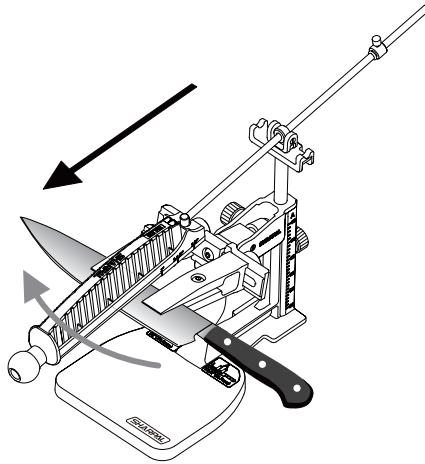

Fig. 17
**Note:** When stropping the knife blade, always move the leather downward. Avoid back-and-forth motions to prevent cutting the leather (See Fig.17). **Before stropping, ensure the blade is clean and free of water spots.**